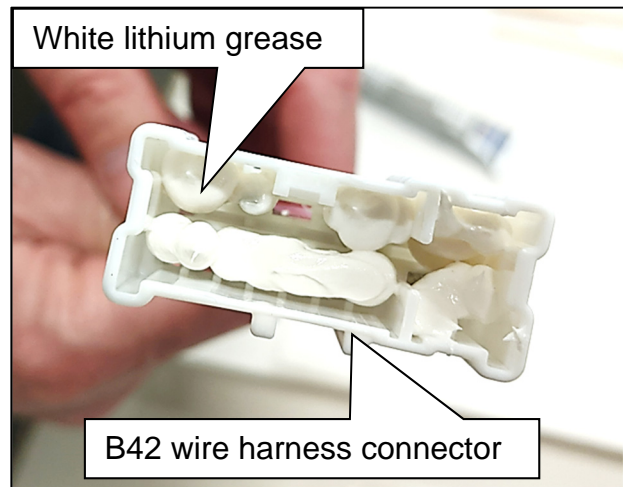

Figure 25
- Apply grease around all sides of all terminals in the connector, making sure the level of the grease comes up to the top of the terminals, as shown in Figure 25.